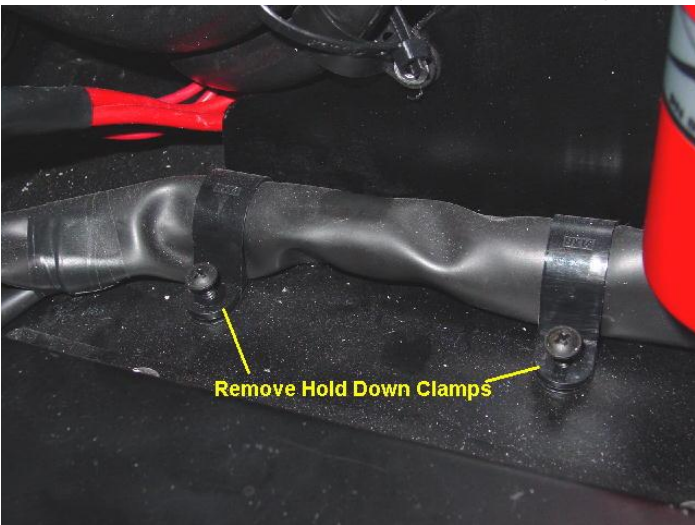

Fig.4 Hold Down Clamp to Be Removed
3. Remove hold-downs from harness behind bulkhead. (Fig.4) Open up sheathing by carefully cutting with a razor blade or sharp knife. **Note:** Be very careful not to cut into any wires.